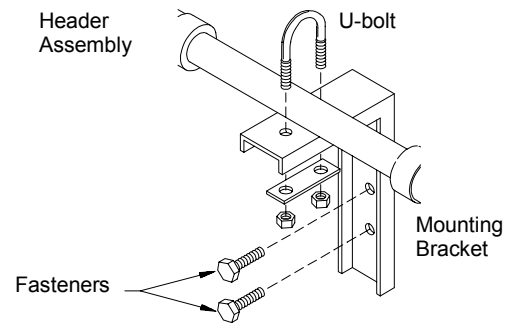

FIGURE 5
4. Mark the mounting holes and install fasteners suitable for the type of wall construction. (Figure 5)
8. Mark the mounting hole and install fasteners suitable for the type of wall construction. (Figure 5)